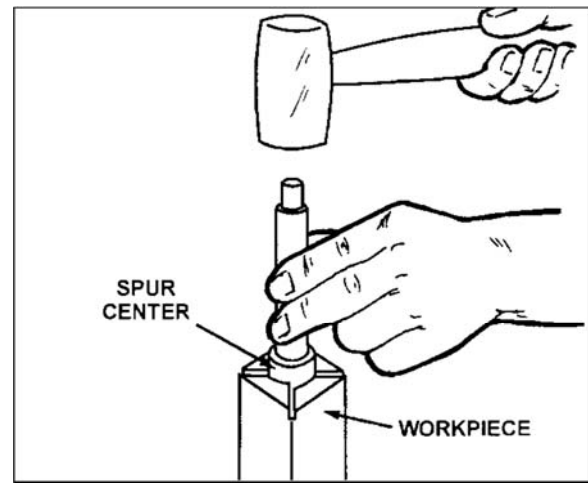

Figure 20
3. Drive the spur center about 1/4" into the workpiece, using a wood mallet or dead blow hammer as shown in Figure 20. Be careful that you do not split the workpiece. **Never use a steel face hammer and never drive the workpiece onto the spur center while it is mounted in the Lathe spindle.**